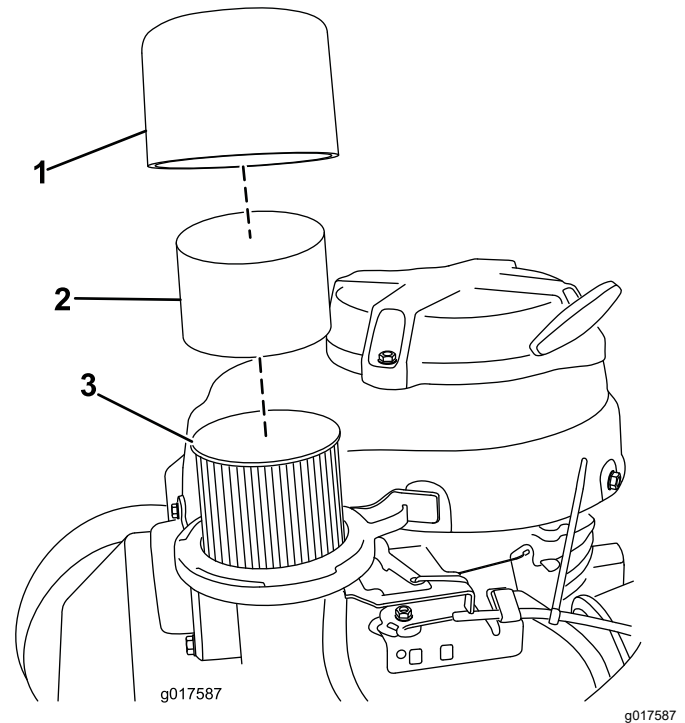

Figure 24
3. Remove the cover and clean it thoroughly (Figure 24).
4. Remove the foam pre-cleaner and wash it with a mild detergent and water, then blot it dry (Figure 24).
5. Remove and inspect the paper air filter (Figure 24); discard it if it is excessively dirty.